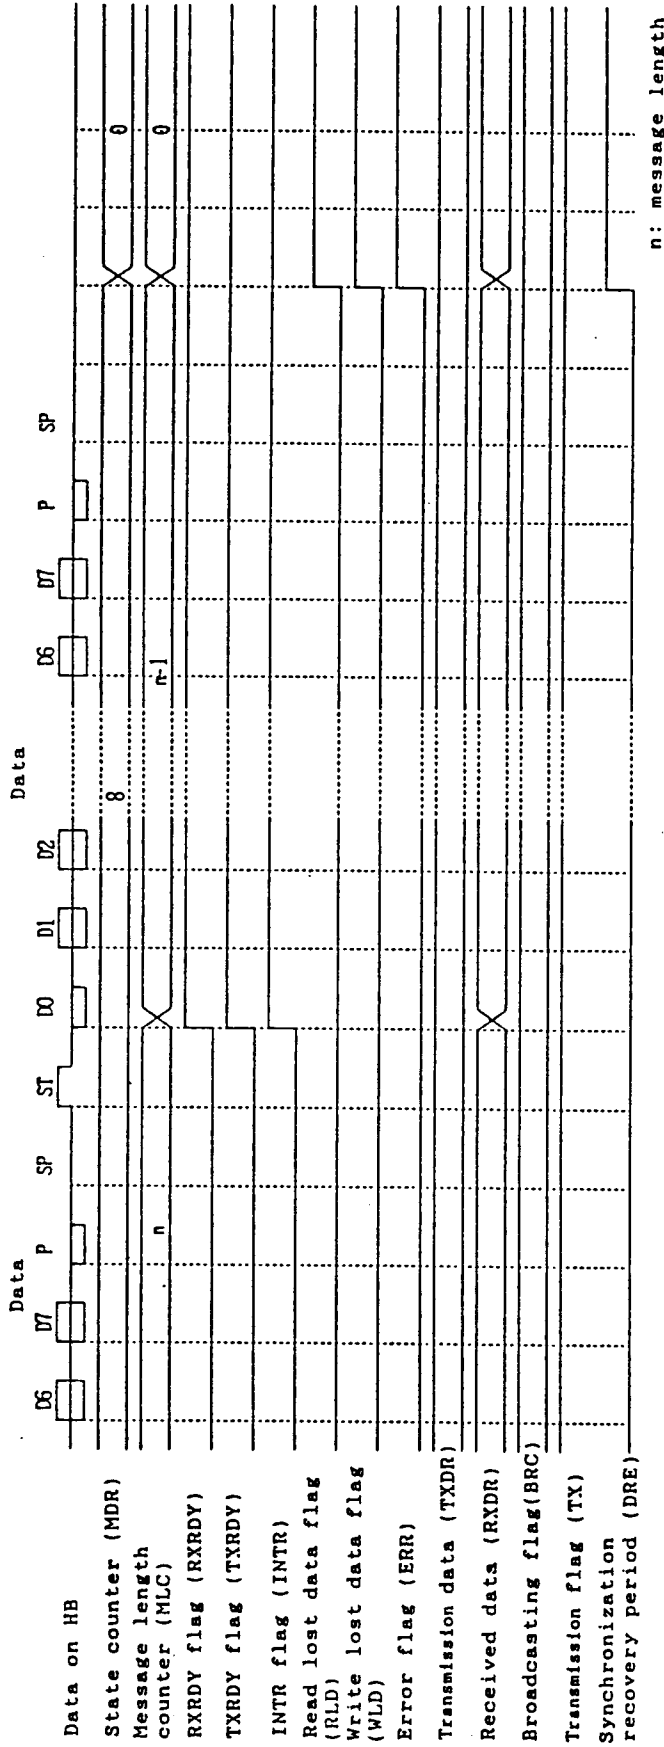

Figure 4.39 Write lost data
Figure 4.39 shows that the next transmission data is not transferred from the CPU during data sending due to some reason. In this case, write lost data (WLD) occurs and sending is stopped. In this case, MDR changes from 8 to 0 and the synchronization recovery period is started. This figure assumes that the CPU stops. Read lost data (RLD) has therefore occurred at the same time. The transmission flag (TX) is set to 'L' when MDR changes from 0 to 2.